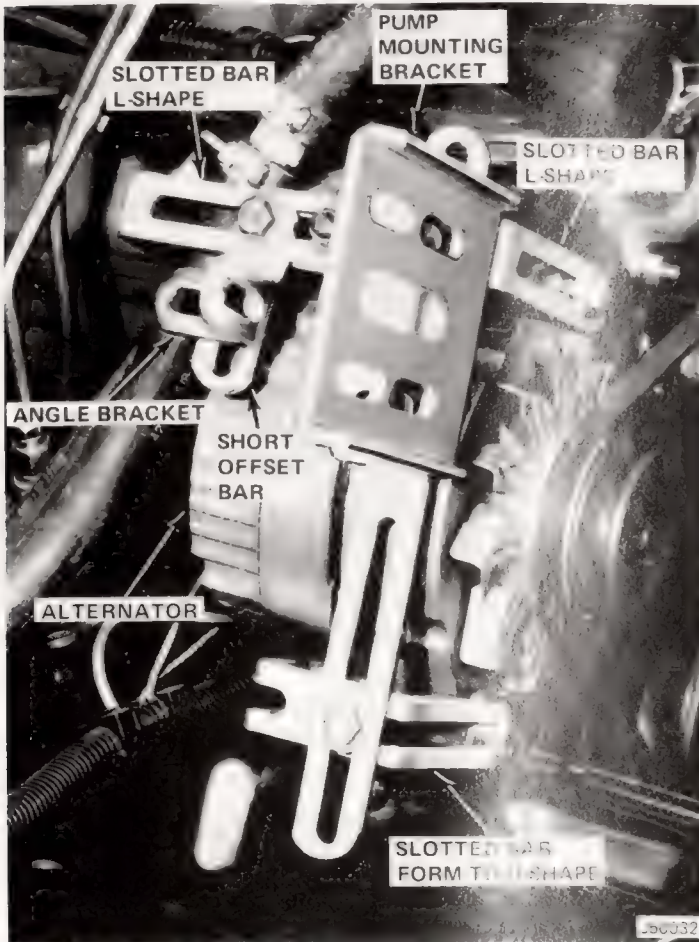

Fig. 1-50 Pump Support Bracket Installation—Six Cylinder
(2) Remove alternator pivot bolt and install U-shape slotted bar piece at alternator pivot point. Replace bolt but do not tighten (fig. 1-50).